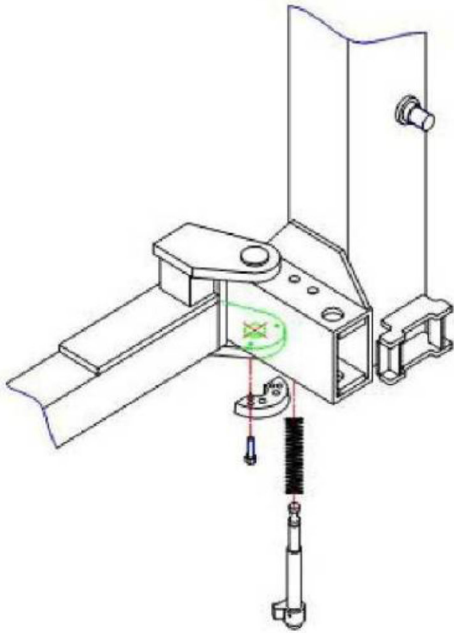

Fig. 13a
- A. Position the gears with pin against the bottom of the arms in the orientation shown in Fig.13a. Attach the gears to the arms with bolts. Do not tighten at this time.